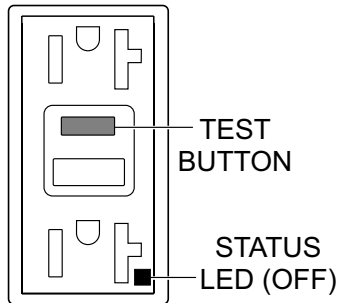

Figure 96. GFCI Receptacle (OFF)
4. Press the **TEST** button (Figure 96) on the GFCI receptacle and verify that the status LED turns **OFF**.